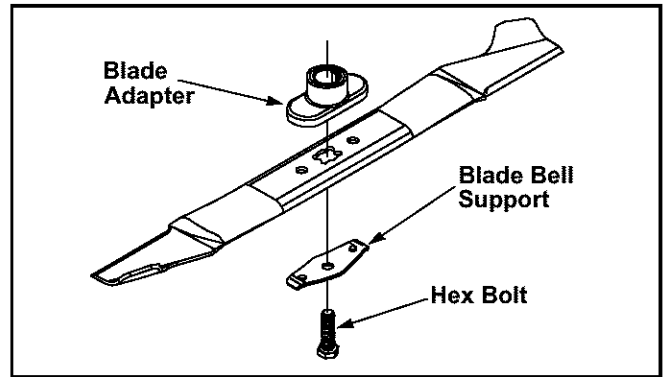

Figure 10
- Remove the bolt and the blade bell support which hold the blade and the blade adapter to the engine crankshaft. See Figure 10.